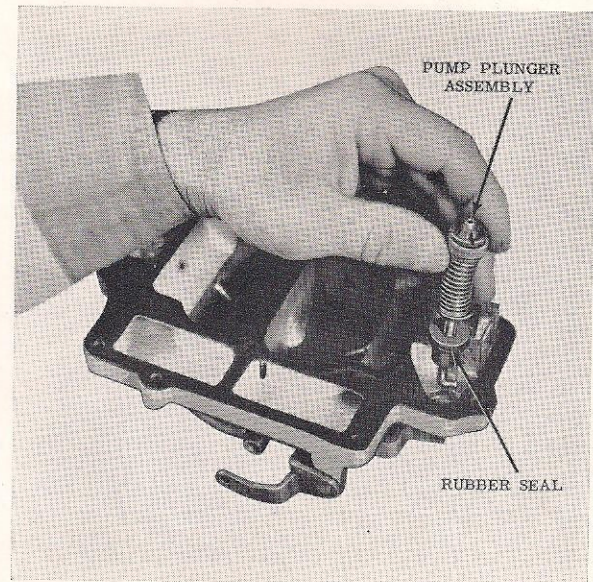

Figure 7-14
25. Remove rubber seal and plunger assembly from air horn. Then remove rubber seal from pump plunger assembly. (Figure 7-14.)